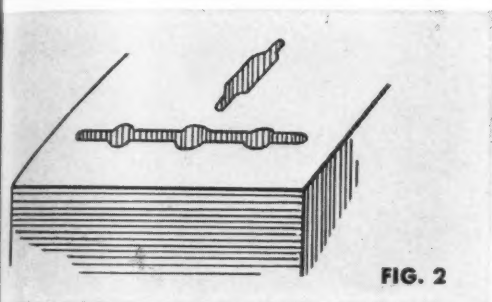

FIG. 2
3. Deep slots or keyways must be molded by long thin rectangular pins; round out the center portion to strengthen the mold pin if possible. (Fig. 2)